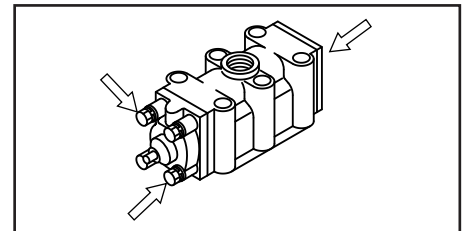

Figure 27
- Remove the 8 cap A and cap B retainer bolts, and remove cap A and cap B (See Figure 27).